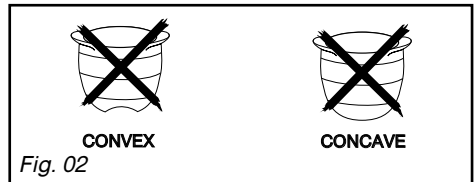

Fig. 02
– Do not use cookware with a concave or convex bottom (Fig. 02).